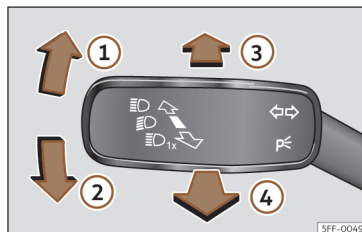

Fig. 93 Turn signal and main beam lever (depending on the version).
- From the base position, press the turn signal and main beam headlights lever forwards »» **Fig. 93** .
- **OR:** while the main beam is on, pull the turn signal light and main beam headlights lever forwards»» **Fig. 93** .